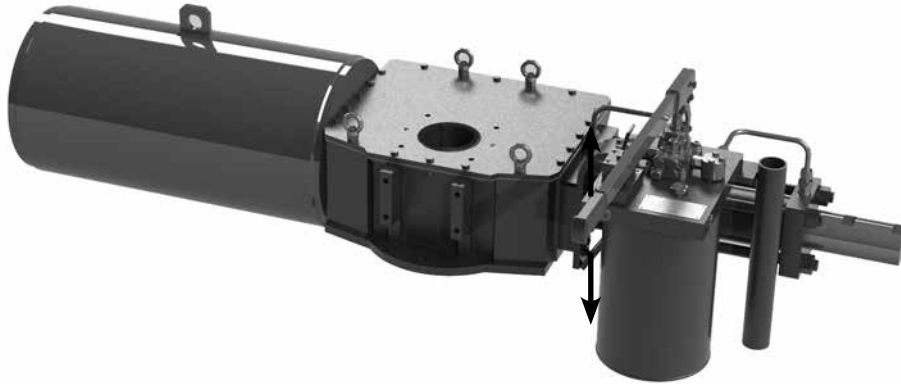

Figure 17 - Hydraulic Hand Pump Manual Override Installed on LHS Single Acting Actuator
3.1.4.1.4 To compress the spring, operate the PMP manual hand pump, acting on the lever (Figure 17).
4. For the Hydraulic Override, it's suggested to check the level of the oil in the tank using the proper level indicator installed near the lever of the pump. See Figure 17.